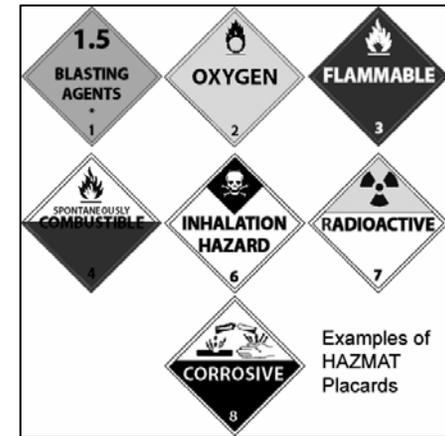

FIGURE 9.3
**Placards.** Placards are used to warn others of hazardous materials. Placards are signs put on the outside of a vehicle and on bulk packages, which identify the hazard class of the cargo. A placarded vehicle must have at least four identical placards. They are put on the front, rear, and both sides of the vehicle. See Figure 9.3. Placards must be readable from all four directions. They are at least 10 3/4 inches square, square-on-point, in a diamond shape. Cargo tanks and other bulk packaging display the identification number of their contents on placards or orange panels or white square-on-point displays that are the same size as placards.